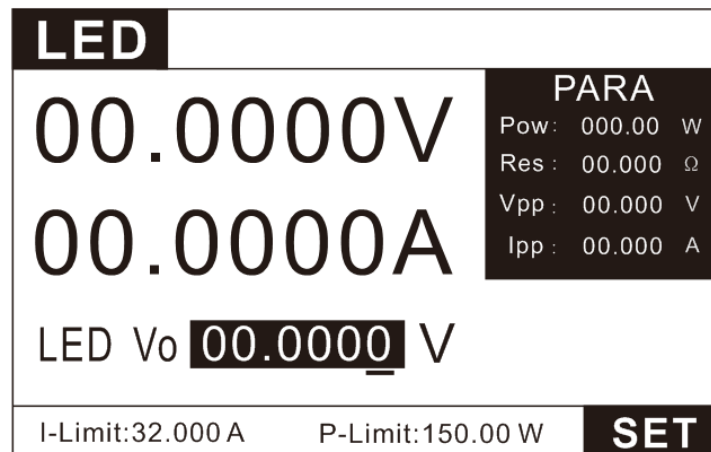

Figure 3.26 LED mode testing page
1. Press the key **MODE** to enter the mode selection page, press the up and down keys to select LED, and press the key **ENTER** to enter the LED test interface, as shown in Figure 3.26.
2. In Figure 3.26, press the key **SET** to enter the setting interface, as shown in Figure 3.25, set $V_o=34.4V, I_o=0.35A, R_f=0.173$. Then R_f is calculated as follows: